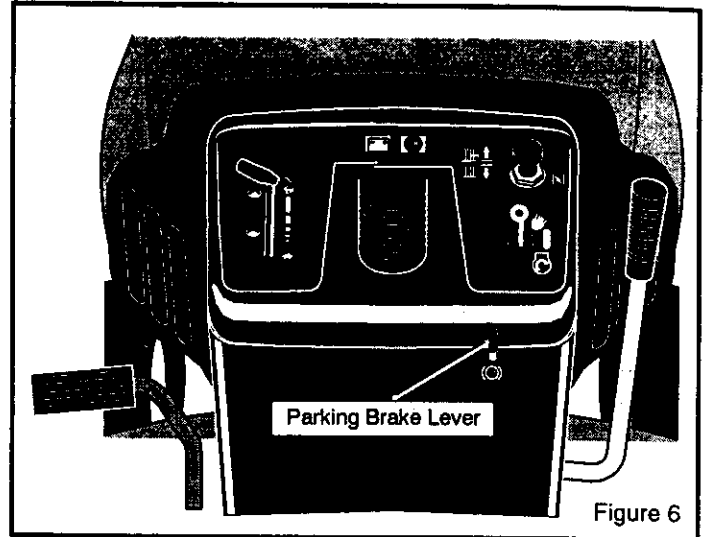

Figure 6
2. Lift the **parking brake lever** (Figure 6).